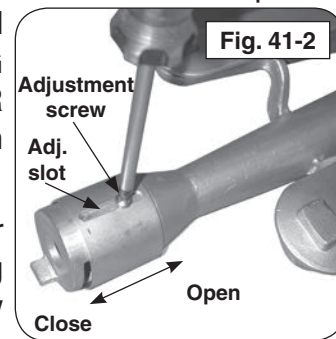

Fig. 41-2
2. Adjust the air shutter opening by loosening the adjustment screw with a screwdriver, then sliding the air shutter backward or forward to open or close the air shutter opening (see Fig. 41-2).